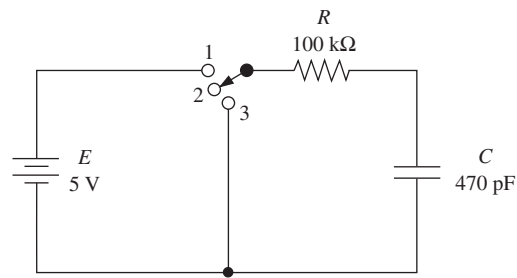

Figure P2
- (a) For the *RC* circuit of Figure P2, determine the voltage on the capacitor 50 μs after the switch is moved from position 2 to position 1. (Assume that $V_C = 0\text{ V}$ initially.)
3. The capacitor in Figure P2 is initially discharged. How long after the switch is moved from position 2 to position 1 will it take for the capacitor to reach 4 V?
4. Assume that the capacitor in Figure P2 is initially charged to 2 V. How long after the switch is moved from position 2 to position 1 will it take for the capacitor voltage to reach 4 V?
5. Assume that the capacitor in Figure P2 is initially charged to 4 V. How long after the switch is moved from position 2 to position 3 will it take for the voltage to drop to 2 V?